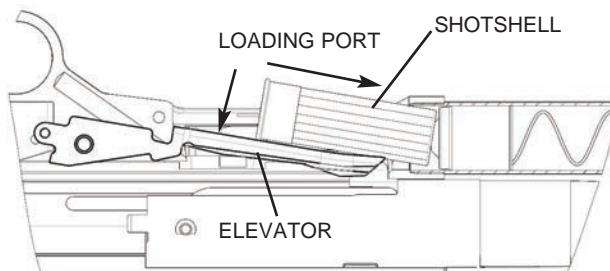

**Figure 5**
1. Open the action by pulling the operating handle completely rearward until it locks in the open position (Figure 5).
2. Load the first shotshell through the ejection port located on the right side of the receiver. The shotshell can be inserted directly into the chamber or placed on top of the elevator (Figure 5).
3. With the safety button fully rearward in the "ON" (SAFE) position, and the muzzle pointed in a safe direction, press the bolt release until the action releases (Figure 5).
3. While holding the elevator down with your thumb (Figure 8), press and release the bolt release (Figure 5). This will release one shotshell from the magazine tube under spring pressure.